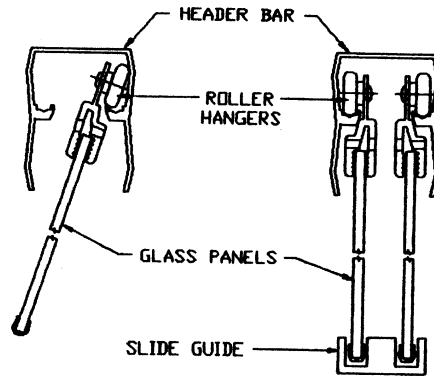

FIGURE 5
- 2) Insert glass panels into the header bar and then the bottom slide guide. **SEE FIGURE 5.**